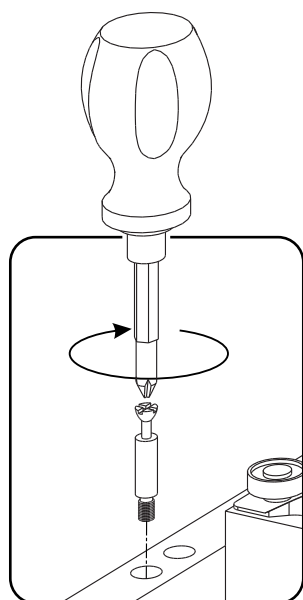

Figure 1
Insert Cam Lock Screws into pre-drilled holes in Side Panels (A), (B) and Middle Panels (C), (D), then tighten. (See Figure 1)